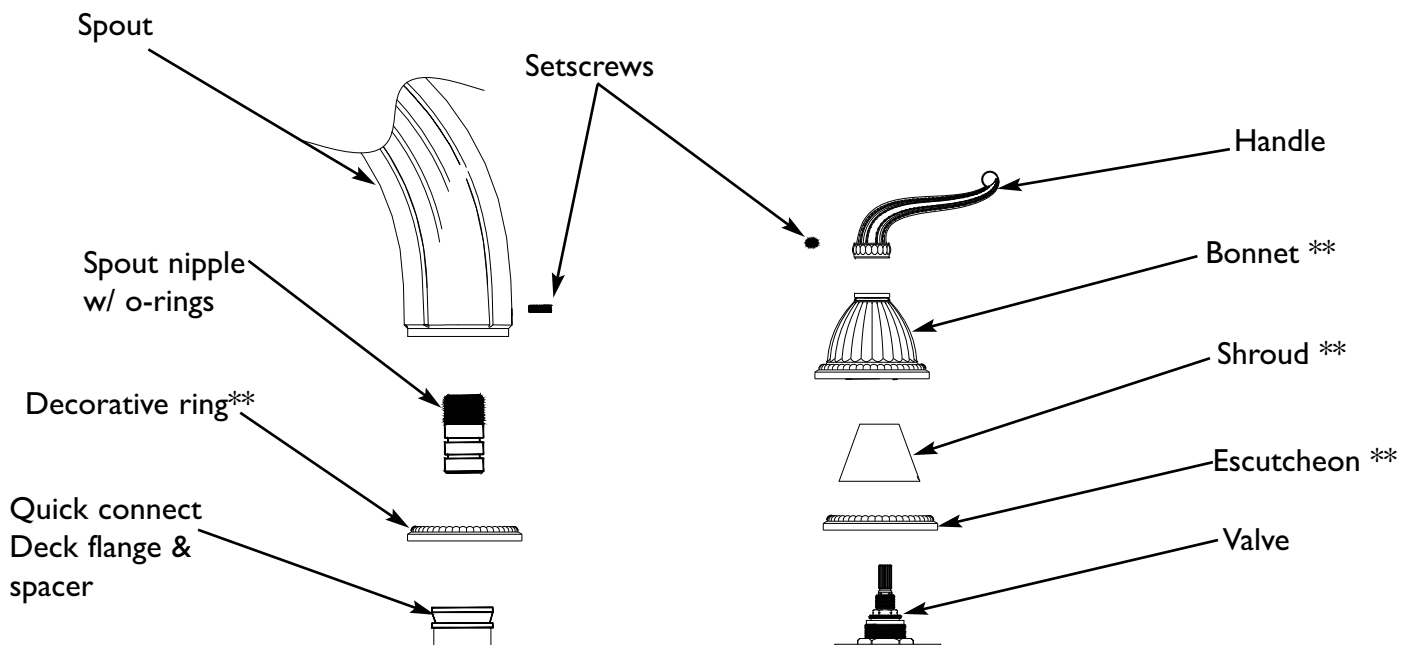

Fig. 3
4. Attach handle trim to valve. When possible, any adjustments for rotational alignment should be made to the valve body - not to the cartridge. (Note: Allow minimum spacing between handles and escutcheon/bonnet to prevent damage to the surface finish.) Secure handles into place with setscrew. See Figure 3.
5. Apply plumbers tape to spout nipple and install into base of spout. Slide spout nipple into quick connect deck flange (re-grease if necessary). Make sure spout is flush with deck and secure into place with setscrew. See Figure 3.